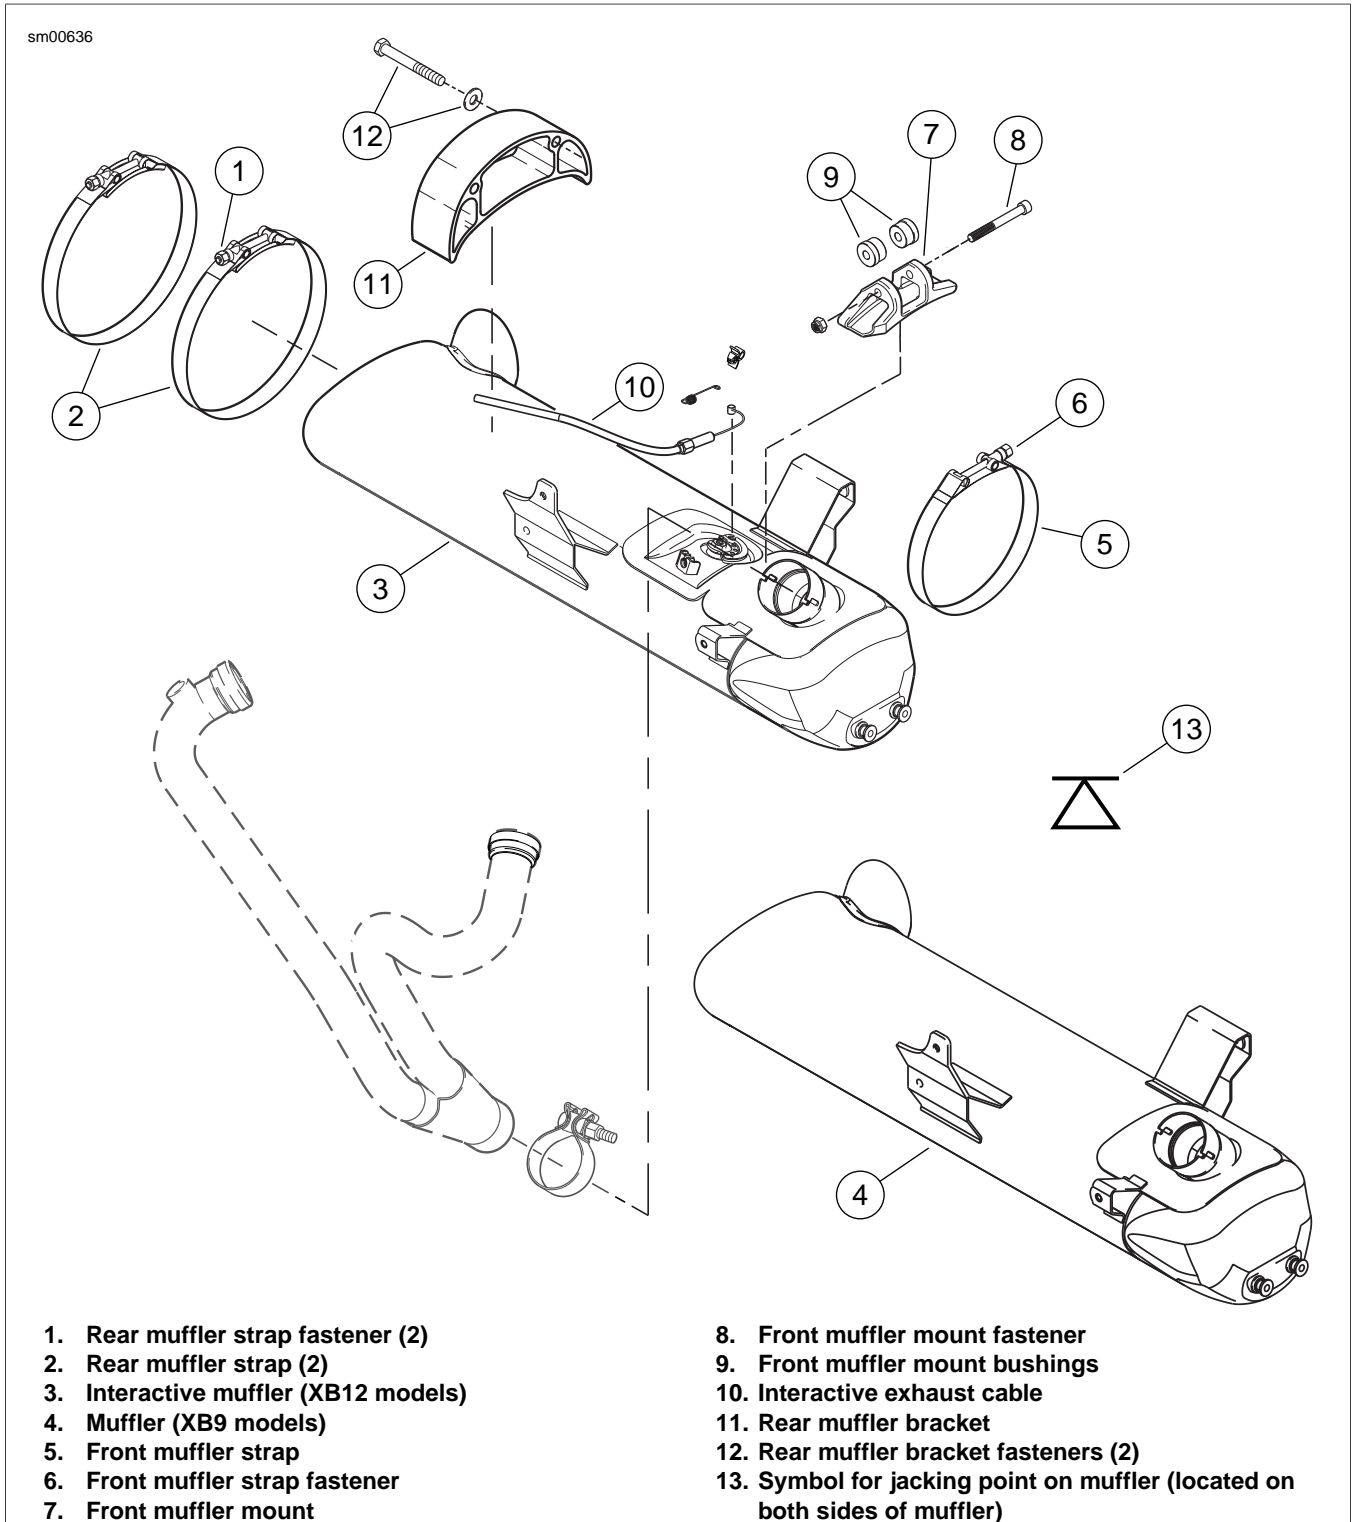
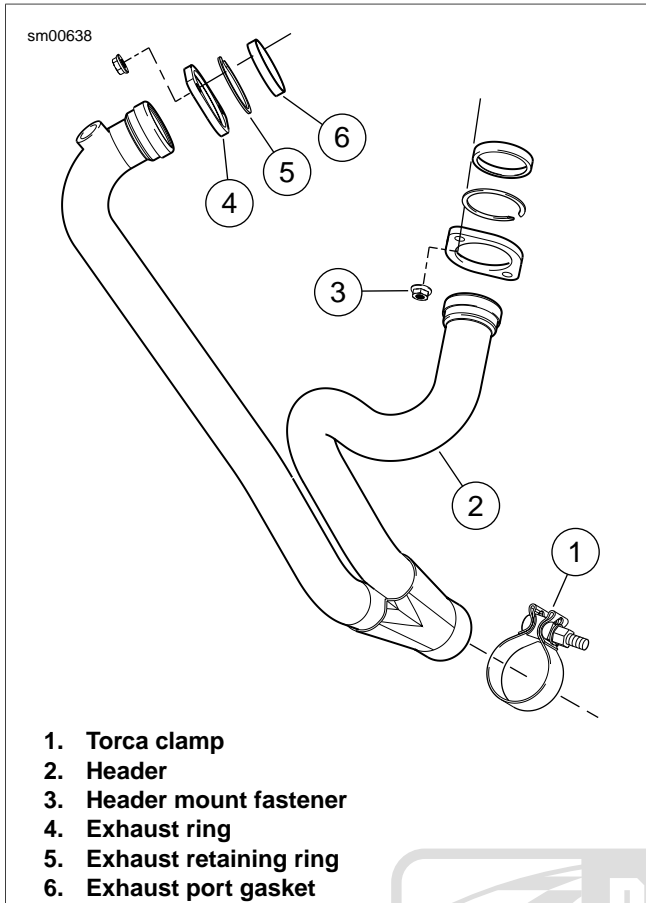

Figure 4-51. Muffler and Mounting System
Figure 4-52. Exhaust Header
4. See Figure 4-51. Loosen front muffler mount fastener (8) but do not remove.
- a. **Front:** Remove front muffler strap fastener (6).
- b. **Rear:** Alternately loosen rear muffler strap fasteners (1) and remove rear muffler straps (2).
6. See Figure 4-52. Loosen Torca clamp (1) and lower muffler.
2. See Figure 4-51. Remove front muffler mount fastener (8).
3. Remove front muffler strap (5) from front muffler mount (7).
4. Remove front muffler mount bushings (9) by punching out with suitable tool.
4. See Figure 4-51. Remove rear muffler bracket fasteners (12).
5. Slide oil line from rear muffler bracket and remove rear muffler bracket (11).
3. See Figure 4-52. Remove exhaust header (2) by removing header mounting fasteners (3).
4. Remove exhaust ring (4), exhaust retaining ring (5) and exhaust port gasket (6).
1. See Figure 4-52. Install exhaust ring (4), exhaust retaining ring (5) and **new** exhaust port gasket (6).
1. See Figure 4-51. Slide rear muffler bracket (11) over oil line.
2. Apply LOCTITE 271 (red) and install rear muffler bracket fasteners (12) and tighten to 32-36 ft-lbs (43-49 Nm).
1. See Figure 4-51. Install front muffler mount bushings (9).
3. See Figure 4-51. Loosely install **new** front and rear muffler straps (2, 5).
5. See Figure 4-52. Tighten the Torca clamp (1) to 45-50 ft-lbs (61-68 Nm).